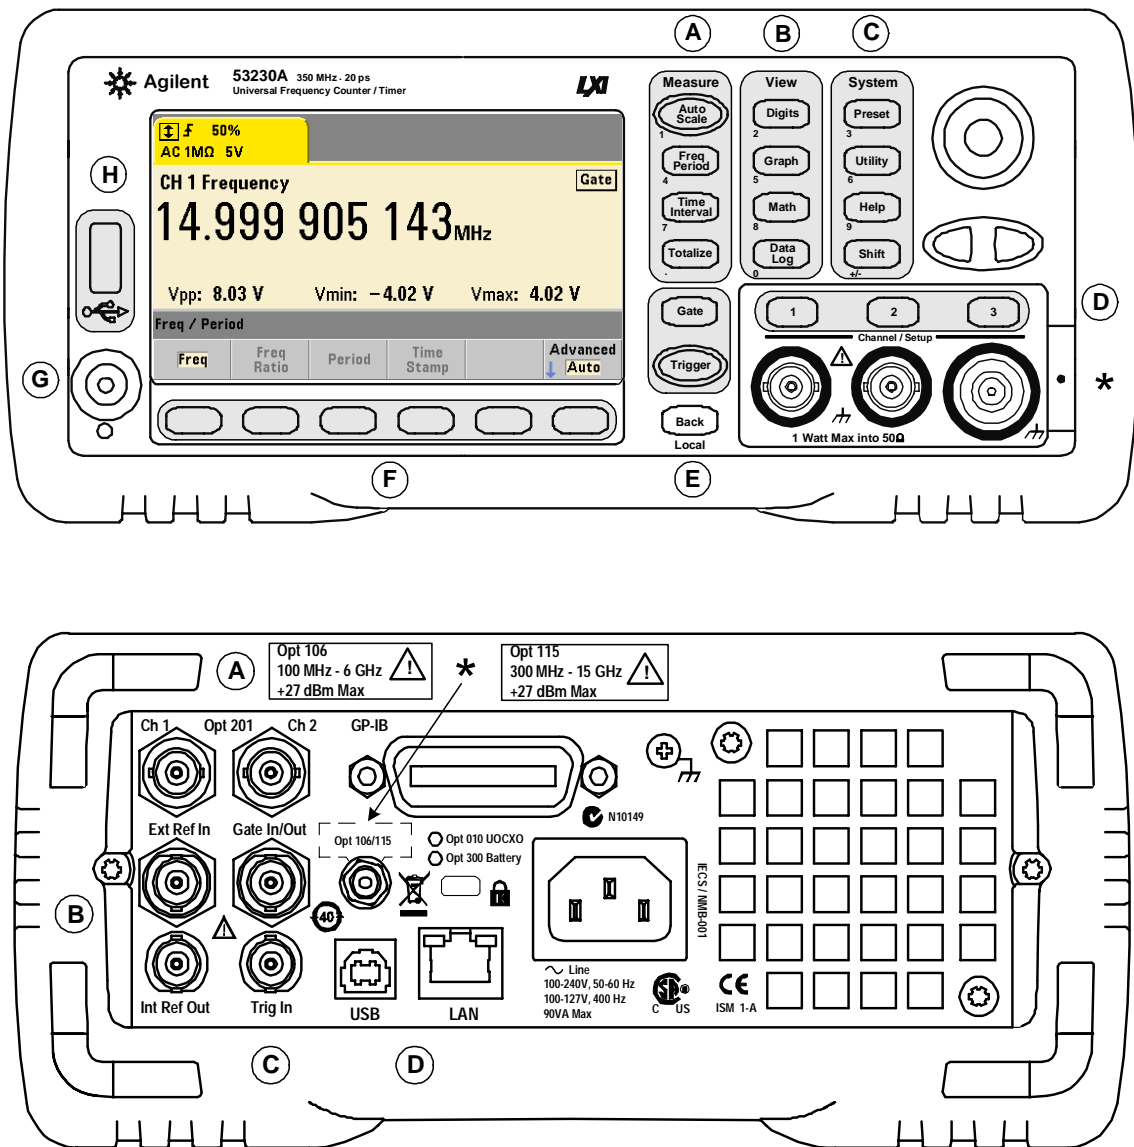

Figure 1-1. The 53220A/53230A Universal Frequency Counter/Timer.
Figure 1-1 shows the front and rear panels of the Agilent 53230A 350 MHz Universal Frequency Counter/Timer. The 53220A and the 53230A are dimensionally identical and available with the same product options - with the exception of Pulse Measurement Firmware Option 150 available with the 53230A only.
D. Channel Keys - select the input channel and displays the soft key menu used to configure the input signal path. Note that Figure 1-1 includes Channel 3 Option 106 / 115. Signal path configuration is covered in **Chapter 4**.
The 53230A rear panel shown in Figure 1-1 includes product Option 201 (parallel rear panel inputs) and GPIB interface Option 400. The rear panel terminals are briefly described below.